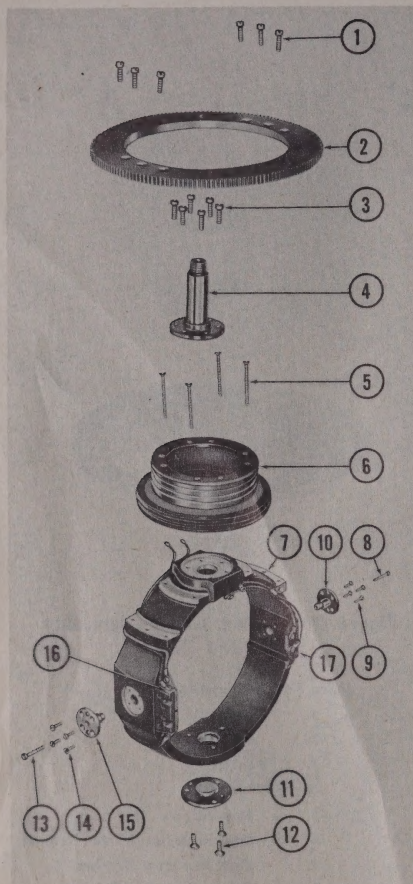

Figure 250 —Cardan Assembly, Exploded View
(See figure 250.)
(c) (See figure 250).—Scribe a mark on the cardan drive gear (2) and on the cardan (7) so that when the gear is removed it may be reassembled in the same position.
(e) (See figure 250.) Examine the contact plate assembly (16) carefully. If the contact plate seems to have separated from the insulating material, or if the assembly seems to be warped so that the wiper will not